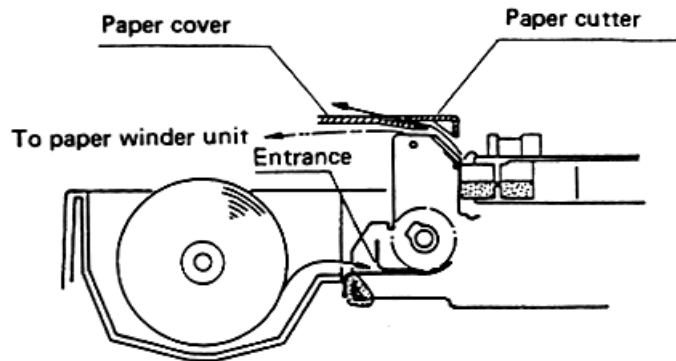

Fig. 17
- 3) Put the end of the paper into the paper entrance of the printer. (Refer to figure 17.)